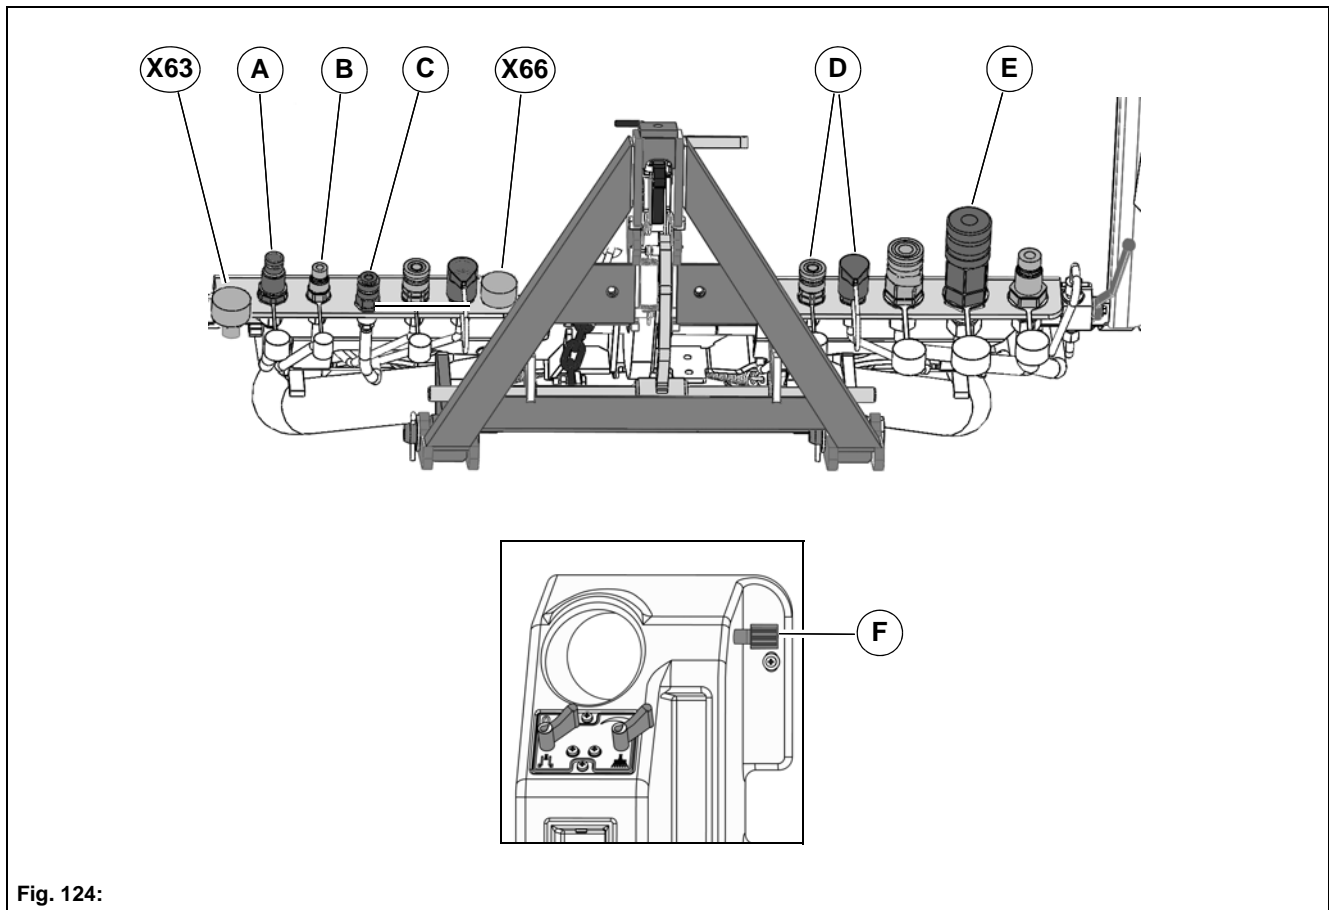

Fig. 124:
<p>Note For the 3-brush system, the front tool carrier must be fixed in the upper end position. After mounting, move the front tool carrier to the upper end position and close the lowering valve Fig. 124-F.</p>
- Supply control unit 3-brush system = **Fig. 124-A**
- LS for control unit 3-brush system = **Fig. 124-B**
- Water connection for spray nozzles = **Fig. 124-C**
- Actuator – supply/return = **Fig. 124-D**
- Return control unit 3-brush system = **Fig. 124-E**
- 9-pin plug = **Fig. 124-X66**
- 19-pin coding plug = **Fig. 124-X63**